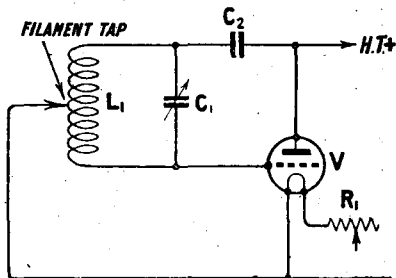
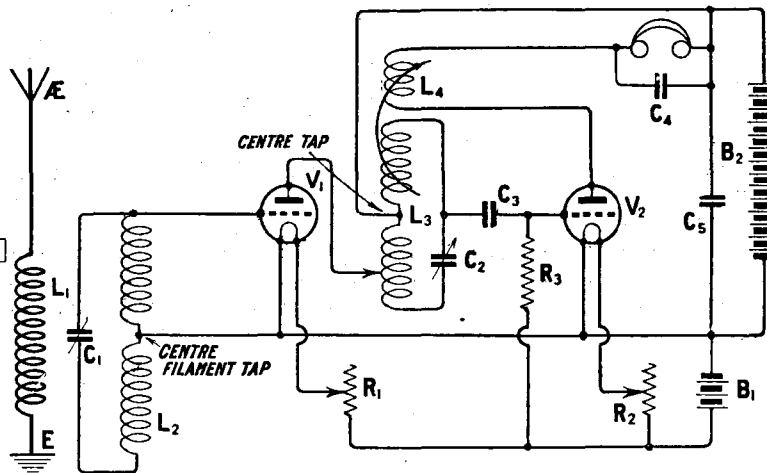

Fig. 1.—A typical oscillator circuit of the Hartley type, drawn in simplified form.
Fig. 2.—The circuit resulting from these experiments is as given in the above drawing.
**Fig. 1.**—A simplified circuit diagram of the nine-valve super-heterodyne illustrated on the previous page. The loading coil L2 is only needed in exceptional cases where frame aerials having very few turns are used.
A detail of the receiver itself which may profitably receive consideration before dealing with the actual operation of the set is the oscillator and its adjustments, and, of course, here it is rather difficult to generalise, since so many different arrangements are current. Taking first the more commonly used separate oscillator system, it is proposed to confine our considerations to the type of oscillator circuit shown in the accompanying complete circuit diagram of a super-heterodyne receiver (Fig. 1). Here a simple reaction coil type of self-oscillating circuit is used, and it is probable that for the various coils involved in this circuit the reader will use one of the commercially-produced "oscillator couplers."
The circuit to be discussed is evolved from two Hartley (transmitter-type) circuits lightly coupled through the medium of the first valve. The typical Hartley oscillator-circuit is shown in Fig. 1; by reducing the value of the condenser C2 the circuit can be stabilised sufficiently for use as a receiving circuit, as in some versions described recently by the writer. In Fig. 2 the essential H.F. circuits of the actual receiver are shown in a simplified form; both tuning inductances are arranged symmetrically about the filament lead, as in the
Hartley circuit, but the condenser C2 (Fig. 1) is omitted. An aperiodic aerial coil is coupled with the first inductance, symmetrically; thus the casual capacity couplings between these inductances are largely balanced out, giving a selective, almost purely, magnetic coupling to avoid shock excitation and interference by powerful local stations. Some loss is introduced by the resulting halving of the oscillating P.D. on the grid of the valve, but this is almost compensated for by the light damping and diminished stray-capacity effects. Actually a small negative grid bias is successfully introduced to reduce grid-current damping.